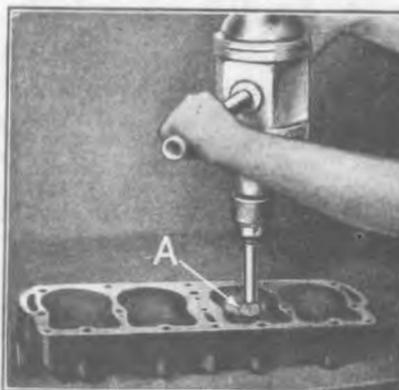

Fig. 220
- 368 Carbon can be removed from the cylinder head by means of a small circular wire brush inserted into an electric drill (See "A" Fig. 220). Any loose carbon which remains in combustion chamber or enters spark plug holes can be removed with compressed air.